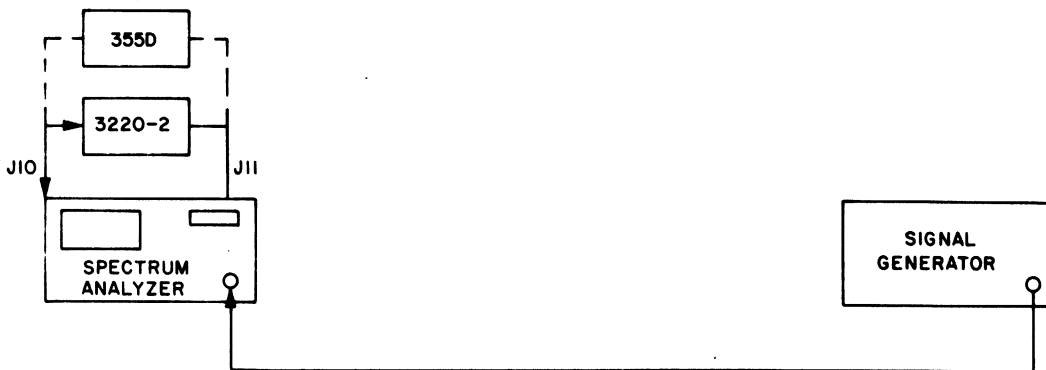

Figure 4-2. IF Attenuator, and Display Accuracy Test Set-Up
1. Connect test set-up as shown in Figure 4-2. Connect the external precision attenuator between the 21.4 MHz IN and OUT connectors J10 and J11 on the rear panel.
1. Connect test set-up as shown in Figure 4-2 with step attenuator used externally.